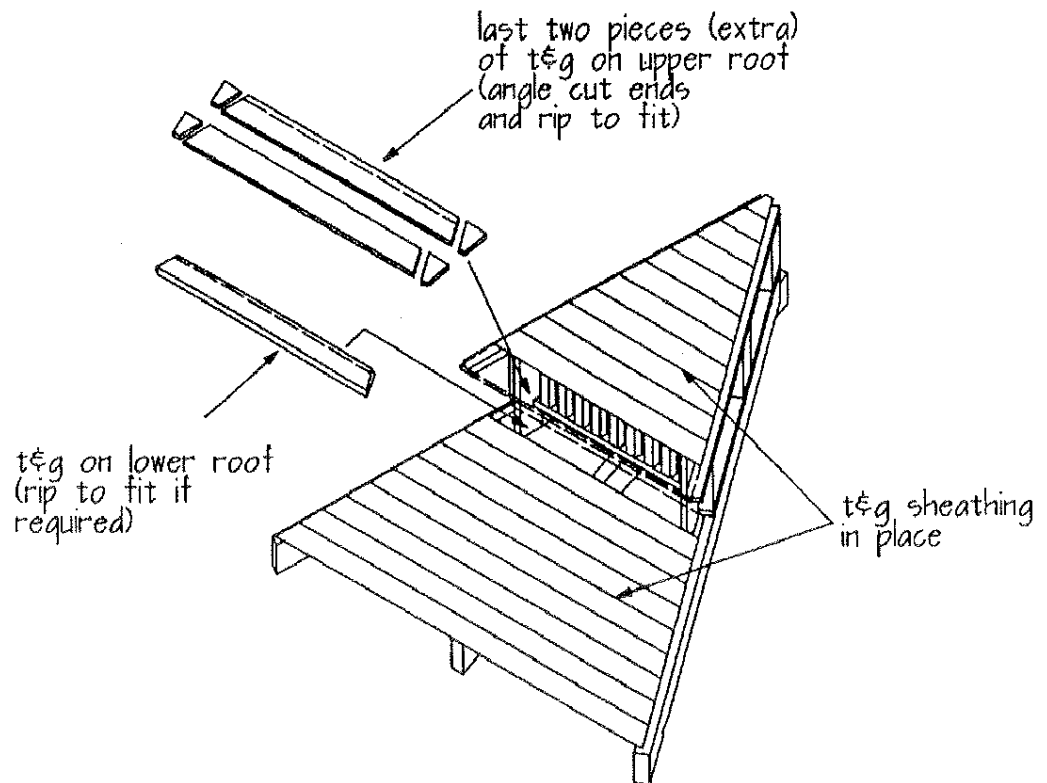

FIGURE D16
9. Take the additional square end battens found in the two-tier roof kit and place two pieces in each of the remaining gaps in the upper roof. Mark the ends of each batten for angle cutting, ensuring a good fit with the edge of the upper roof. Do not be concerned if there is a slight overhang over the two-tier roof rafter. Secure these two batten pieces as outlined before, and shown in **Figure D16**.